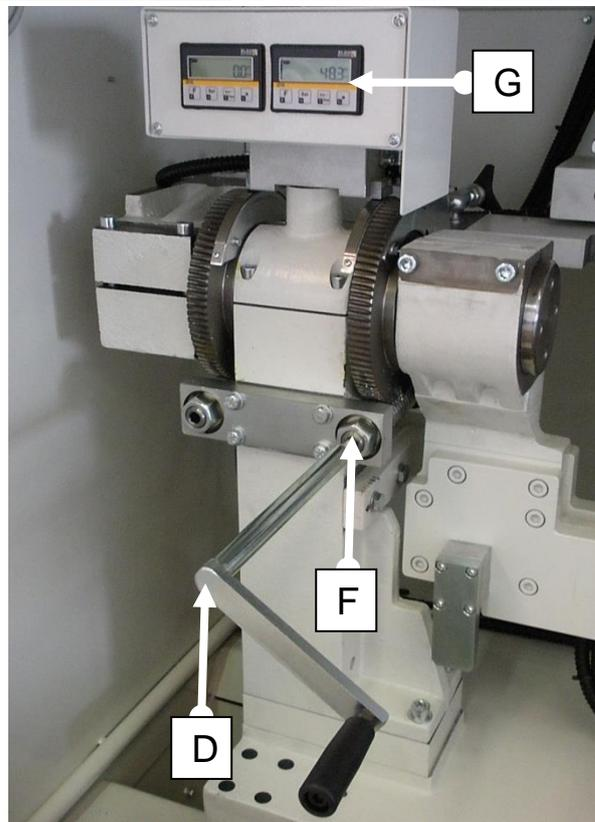

FIG.11A
- Insert spanner D (Fig.11A) in seat F (Fig.11A) and turn it to the required tilting position that can be read on display G (Fig.11A)